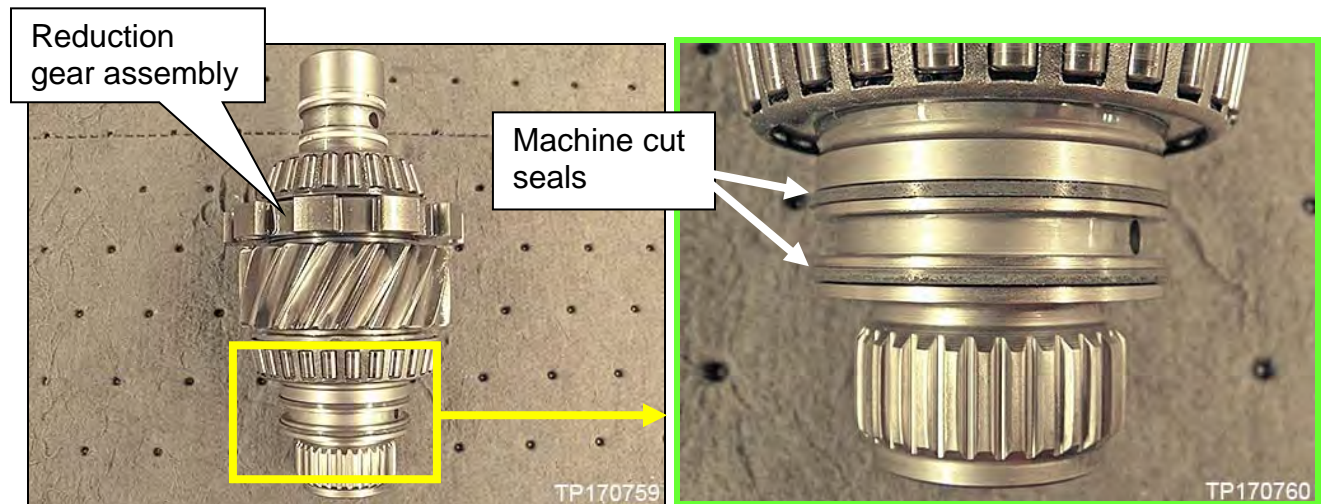

Figure 17R
22. Replace the two machine cut seals (Ring Seals) of the reduction gear assembly, shown in Figure 17R and then center them in their grooves.